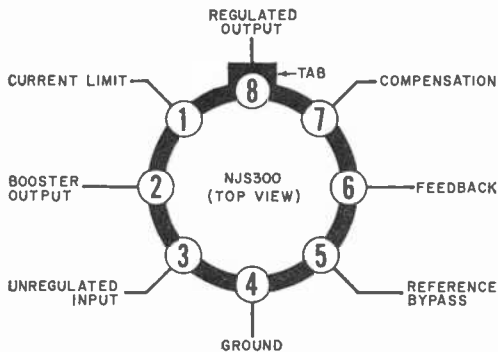

Fig. 1. Voltage-regulator pin arrangement. Components are added to provide for various load types.
**How to Use.** The voltage regulator's pin designations are shown in Fig. 1. You can leave pin 1 unconnected for standard regulator operation, or connect a resistor between pins 1 and 8 to provide current limiting. The resistor value can be determined from the relationship  $R = 0.350/I$ , where  $I$  is the desired current limit in amperes. For example, if you want to limit the current to 10 mA